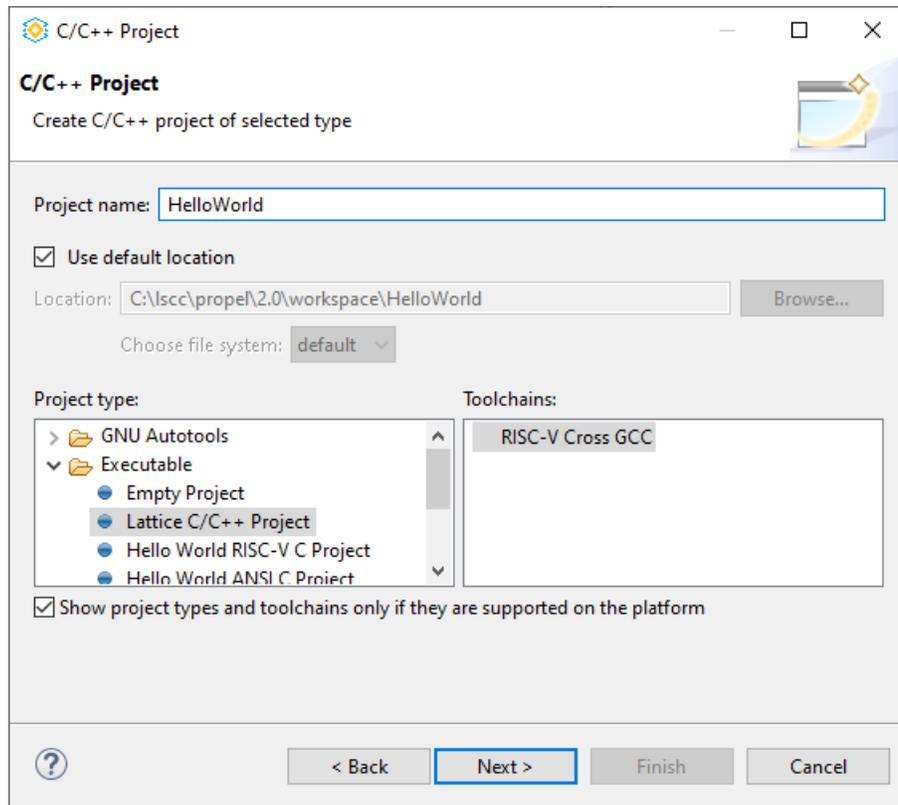

Figure 4.9. Create C Project Page
5. Enter project name “HelloWorld” (Figure 4.9). Click **Next**. Then click **Finish**.